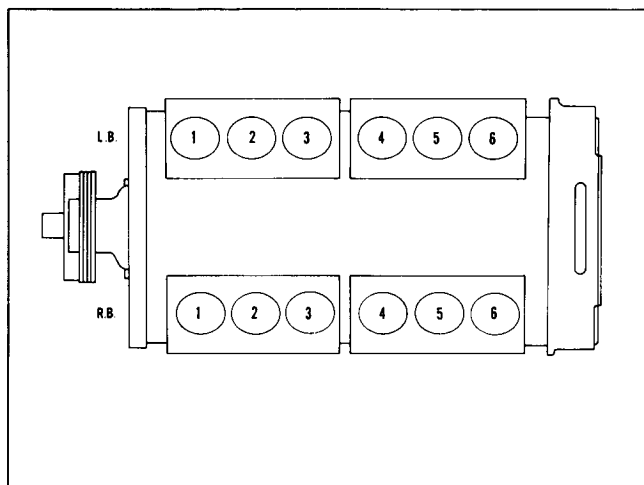

Fig. 2-47, (V414231). V-1710 piston position
- For firing order see Table 2-11 for Inline Engines and Table 2-12 and Fig. 2-47 for V-1710 Engines.